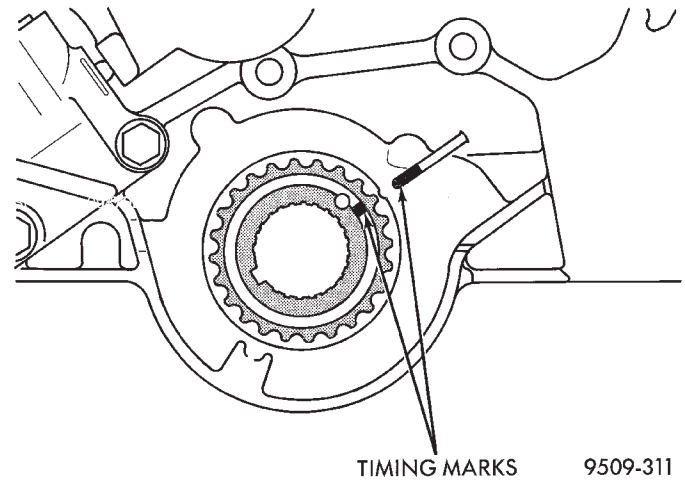

Fig. 57 Adjusting Crankshaft Sprocket for Timing Belt
(3) Install timing belt on rear camshaft sprocket first and install a binder clip on the belt and sprocket so the belt will not slip out of position. Keeping the belt taut, install under the water pump pulley and then around the front camshaft sprocket. Install an additional binder clip on the front sprocket and belt.
(4) Rotate the crankshaft to TDC (Fig. 57). Continue routing the belt by the idler pulley and around the crankshaft sprocket to the tensioner pulley.